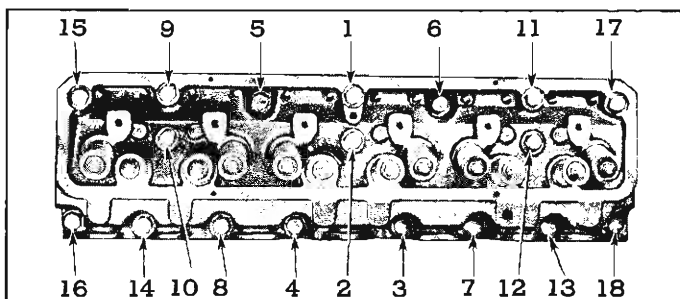

Fig. 16—Cylinder Head Bolt Tightening Diagram
5. Tighten the cylinder head bolts a little at a time in the order shown in Figure 16. The final tightening should be to 90-95 ft. lbs.